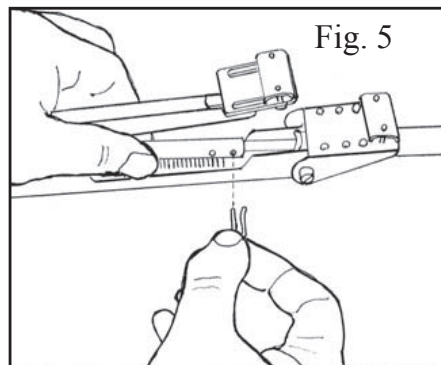

Fig. 5
- 2b. For greenhouses made out of wood – and then follow our instructions outlined under pos. 3-4-5-6
- 2c. On aluminium-greenhouses where our clamps do not fit, read the manual supplied by the greenhouse manufacturer – and then follow our instructions mentioned under pos. 3-4-5-6
3. Insert the piston rod (2) on the cylinder (1) into the push-rod (4), and align the hole at the end of the piston-rod with Hole A in the push-rod, and lock it by inserting the small hairpin (5) – see Fig.5.